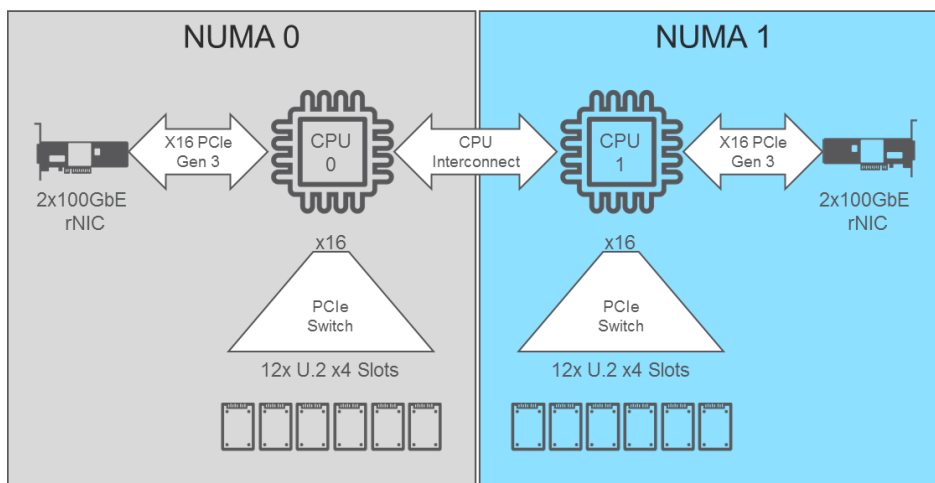

Figure 3: Excelero NVMe Target Node Block Diagram
Each CPU complex (NUMA Node) hosts a single x16 PCIe adapter slot as well as x16 PCIe switch connected to 12x 4-lane U.2 drive bays on the midplane. In this RA, this server provides a balanced architecture ensuring storage traffic can be organized and directed with minimal use of the inter-CPU complex inter-connect (Figure 3).
- 12x Micron 9100 NVMe U.2 SSDs installed such that six drives are attached to each CPU complex (Figure 3)